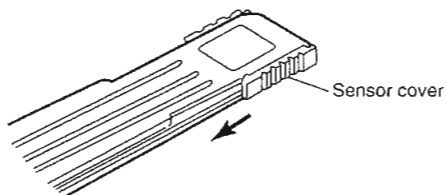

Fig. 12
2. If using a laser power meter, slide open the sensor cover. (Refer to Fig. 12.)